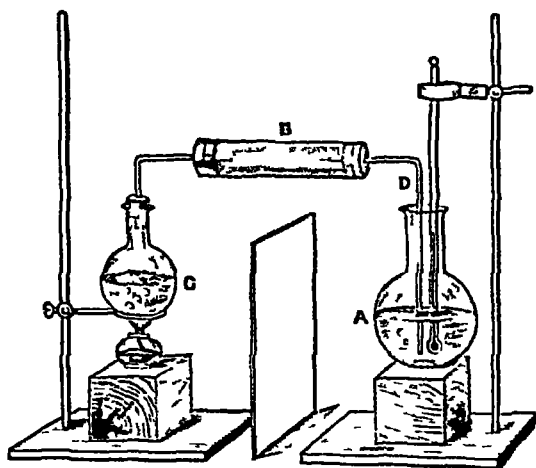

FIG 21
(A is a 16-oz flask (fig 21), B, a wide tube to prevent condensed water passing into A, C, an 8-oz flask three parts full of water. Weigh A empty and when three parts full of water, the difference is the weight of water. Protect A from the heat of the burner by a sheet of tin. Boil the water in C. When the steam is issuing from the end of B, note the temperature of A, and then dip D into A, the steam condensing heats the water in A, test with the thermometer, in about four or five minutes remove D and note the final temperature, weigh A and find the weight of steam condensed)
**Aqueous Vapour**—Water in the gaseous state is invisible, and is called water vapour or aqueous vapour, the vapour as it passes along B (fig 21) cannot be seen, nor is it visible above the boiling water in a flask. When aqueous vapour is cooled, it condenses into very small particles of liquid water, and is frequently but inaccurately called steam